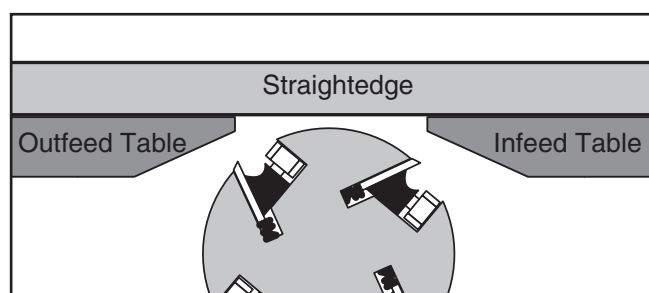

Figure 54. Infeed and outfeed tables set evenly.
3. Place the straightedge halfway across the infeed table and halfway over the outfeed table, and adjust the infeed table even with the outfeed table, as shown in **Figure 54**.
6. Place the straightedge halfway across the infeed table and halfway over the outfeed table, and adjust the infeed table even with the outfeed table, as shown in **Figure 54**.